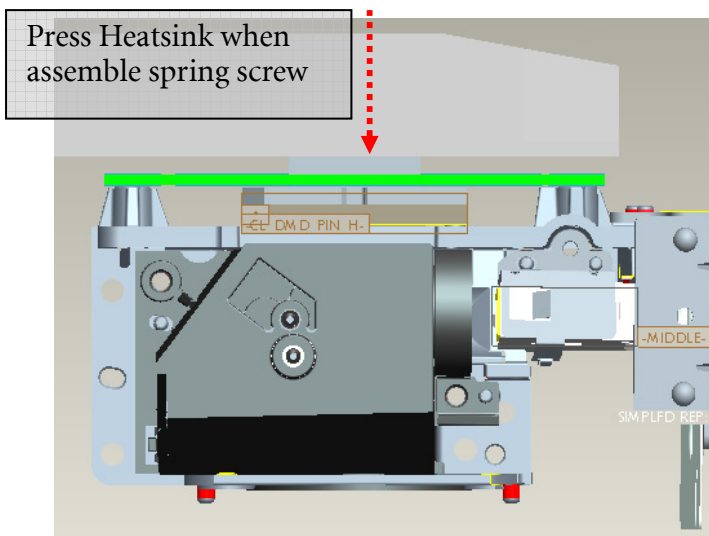

Fig. 7-3
7.4 Assemble Thermal Pad & Gasket Hest-sink then place contact DMD (Fig. 7-3, 7-3-1~2).